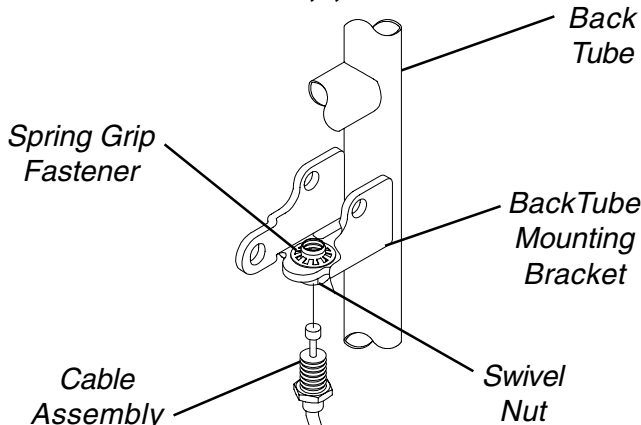

FIGURE 3-REPLACING THE CABLE ASSEMBLY
*NOTE: Route cable assembly to the inside of the locking rod/recliner tube assembly as shown in **FIGURE 3**.*